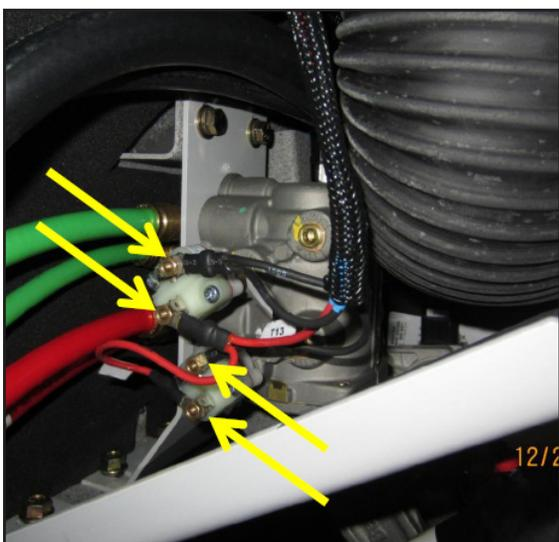

Figure 3: Disconnect the electrical harness by removing four nuts from both stop light switches on the left side of the treadle valve.
2. Disconnect the electrical harness by removing the four (4) nuts from both stop light switches on the left side of the treadle valve (disconnect harness in four places) (Figure 3).